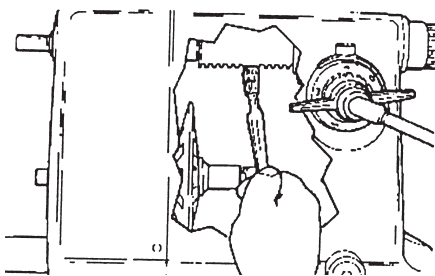

Figure 112
- With a small, stiff brush, reach in through the Logo Cover opening and brush off the teeth on the portion of the Quill inside the Headstock, as demonstrated in Figure 112. Then extend the Quill out from the Headstock as far as it will go and brush off the outside teeth.